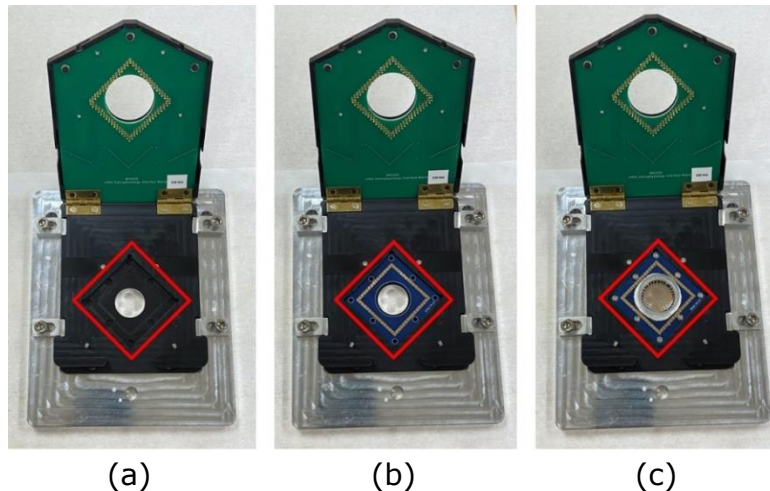

Fig. 14: Interface Board **(a)** opened with **(b)** support PCB placed in recess of board and **(c)** sMEA placed on top of support PCB in recess of board.
- 14) Open the Interface Board (**Fig. 14a**) and place the sMEA or MEA in the recess on the board (**Fig. 14**); it is important that the arrays are placed in the correct orientation so that the electrode label on the software matches the electrode label on the array.